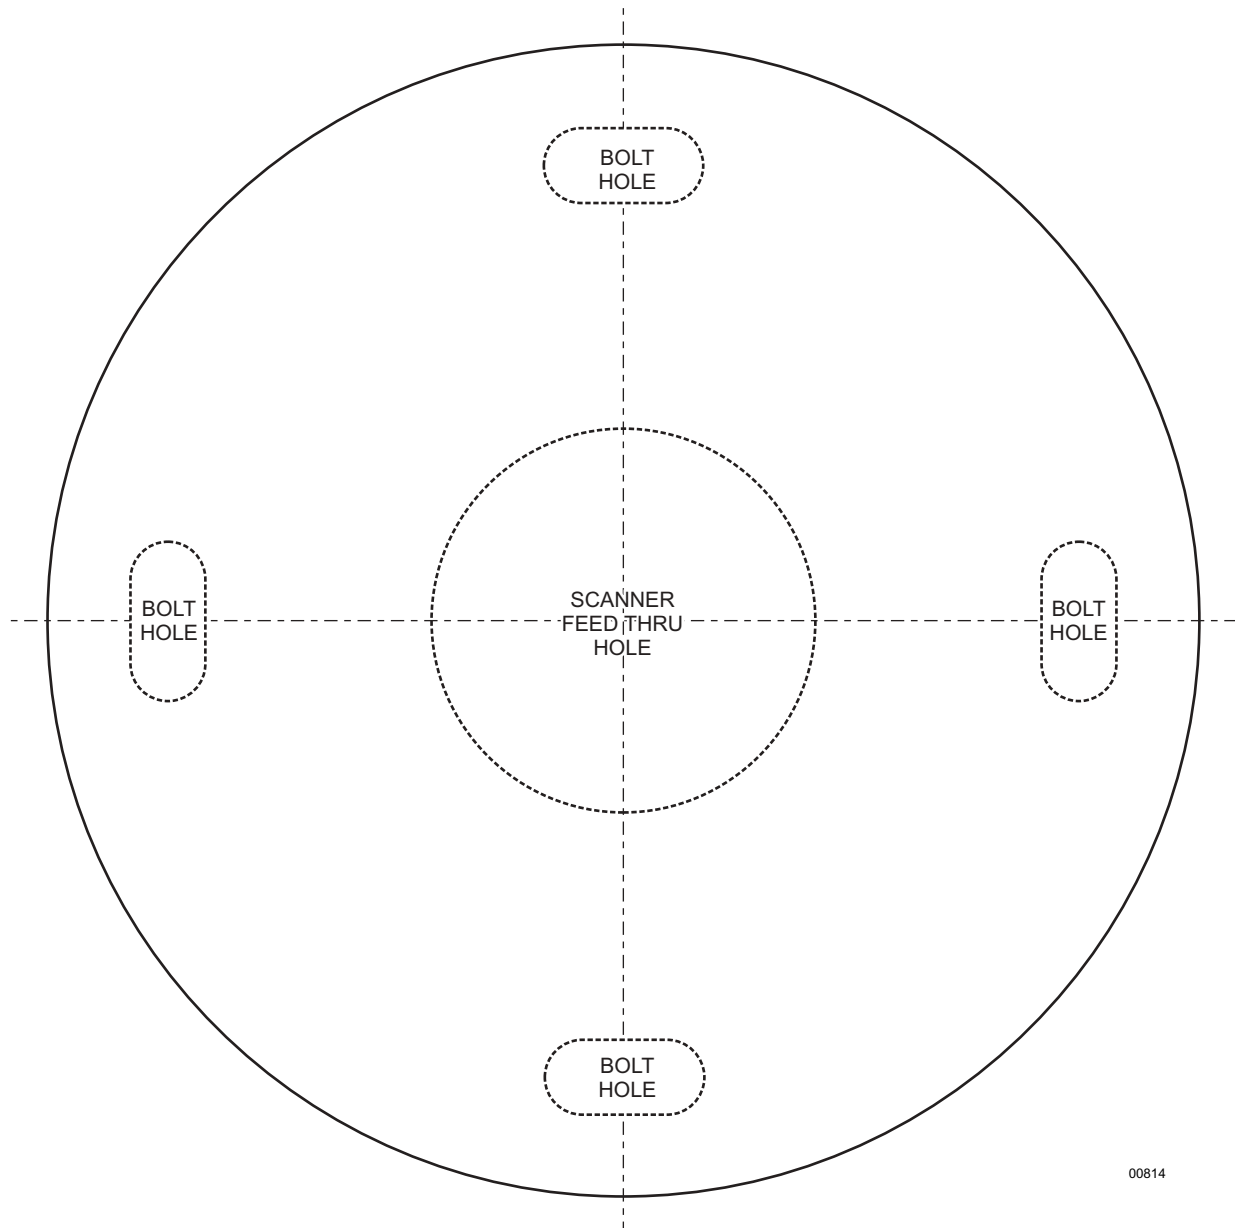

Figure 1. PS20 Surface Mount Template
2. If mounting directly to a flat surface, use Figure 1 as a template and mark the bolt and cable/wire feedthrough positions onto the installation surface. Prepare the mounting surface and pull cable/wiring for the scanner.